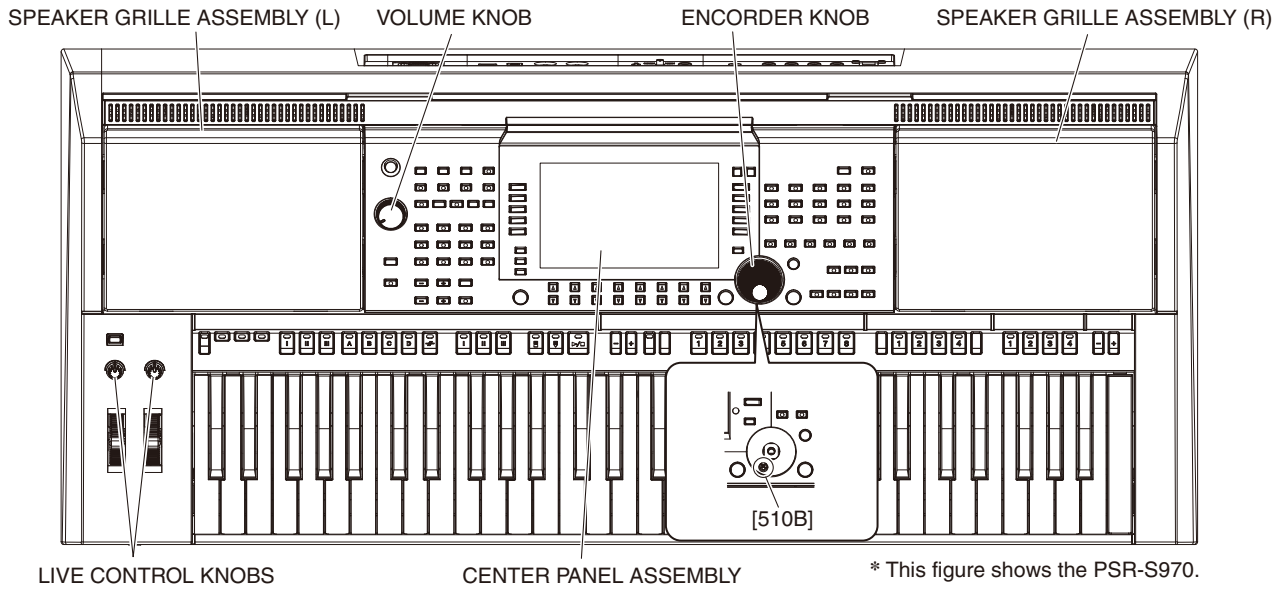

Fig. 5
- 5-3. Remove the encoder and volume knobs. (Fig. 5)
- 5-4. Remove the screw marked [510B]. The center panel assembly can then be removed. (Fig. 5)
- 16-2. Remove the LIVE CONTROL knobs. (Fig. 5)
- 19-3. Remove the speaker grille assembly. (Fig. 5)
* **The eight (8) projections of the speaker grille must be bent in the counterclockwise direction.**